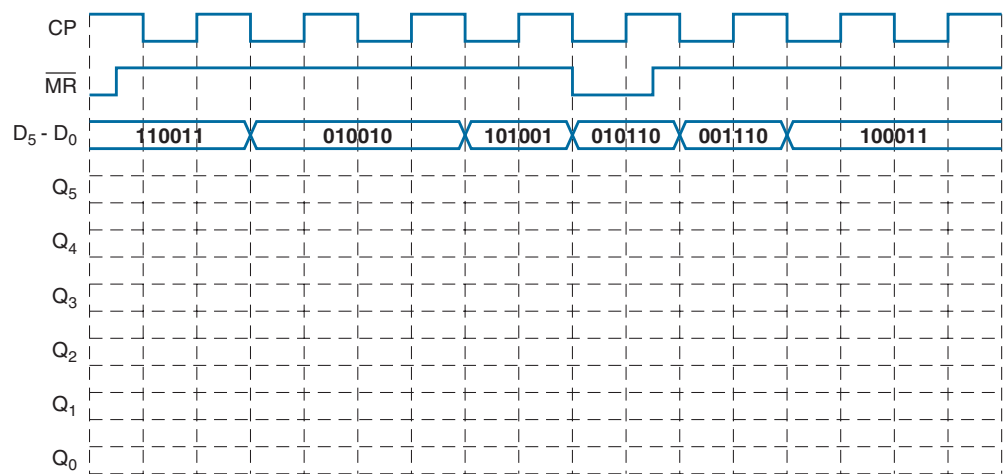

FIGURE 7-115 Problem 7-66.
- B** 7-66. Complete the timing diagram in Figure 7-115 for a 74HC174. How does the timing diagram show that the master reset is asynchronous?